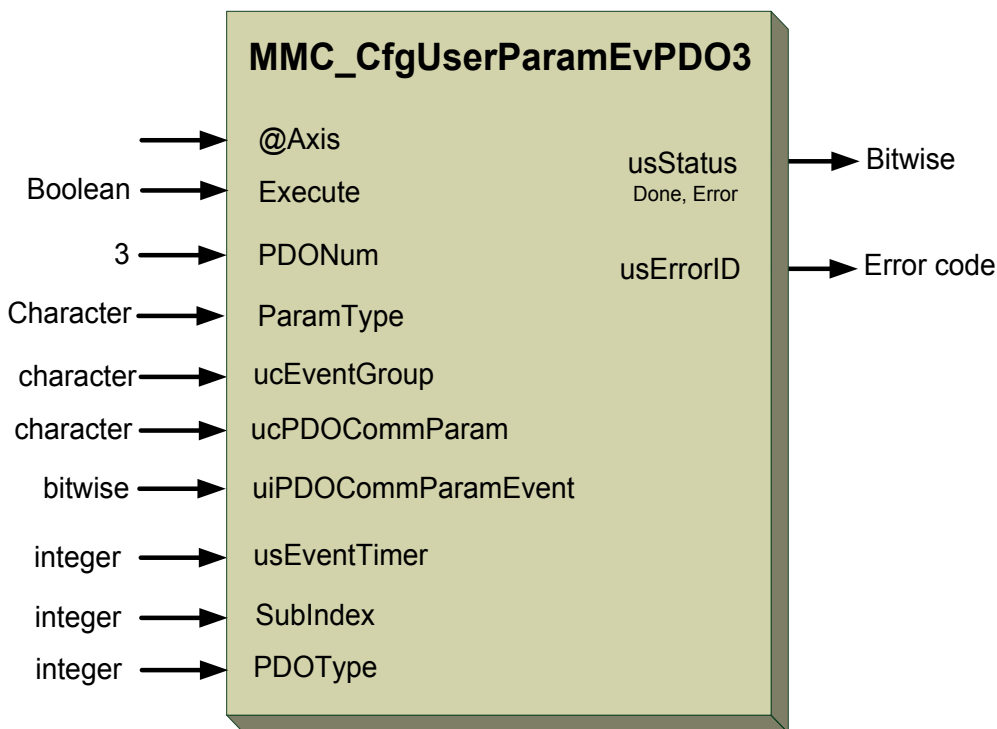

Figure 16-29: MMC\_CfgUserParamEvPDO3 function block
**Figure 16-29** describes the function block for MMC\_CfgUserParamEvPDO3 as applied within the IEC 61131 programming. The IEC function block serves CfgUserParamEvPDO3, CfgUserParamEvPDO4, CfgRegParamEvPDO3, and CfgRegParamEvPDO4 together.